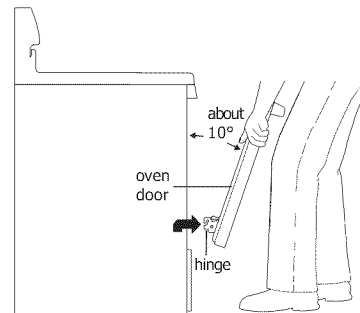

Figure 47: How to remove door
3. Firmly grasp both sides of oven door along the door sides (Do not use the oven door handle - Figure 47).
1. Firmly grasp both sides of oven door along the door sides (Do not use the oven door handle - Figure 47).